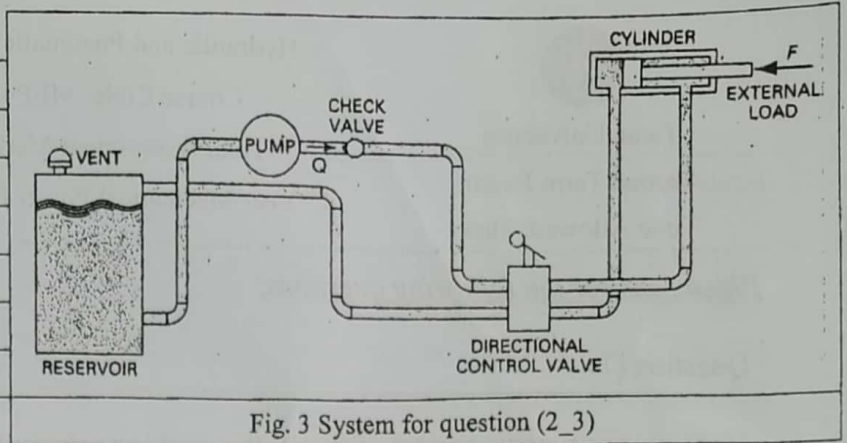

Fig. 3 System for question (2_3)
3. For the fluid power system of Fig. 3, the total pressure drop in the line from the pump discharge port to the blank end of the cylinder is 517050Pa. The total pressure drop in the return line from the rod end of the cylinder is 344700Pa. Determine the: